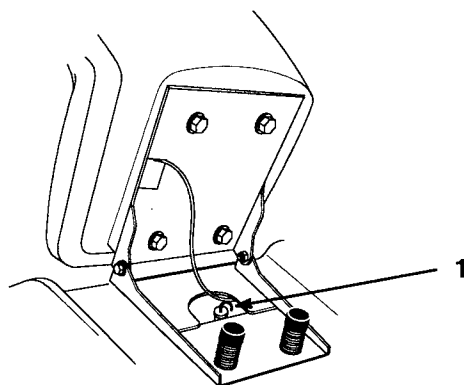

Figure 41
3. Clean around the transmission dipstick (Fig. 41) so dirt cannot fall into the filler hole and damage the transaxle.
4. Pull out the transmission dipstick and wipe the metal end clean (Fig. 41).
6. Slowly pour the specified refill capacity of oil into the filler tube (Fig. 41).